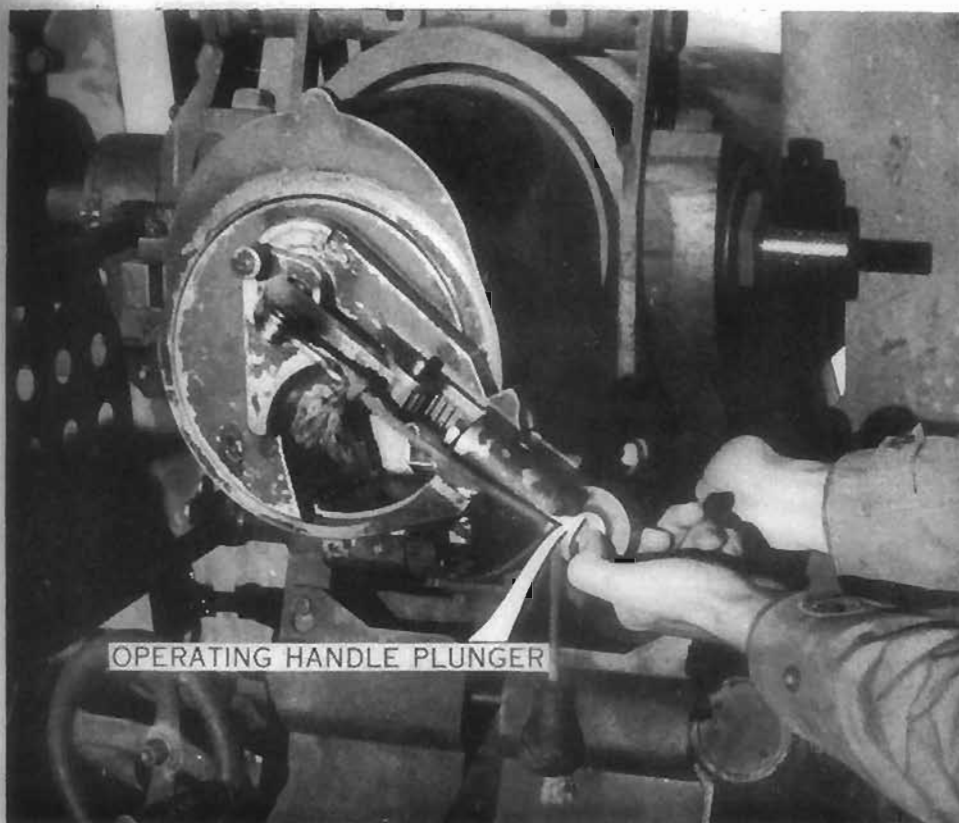

Figure 10
- E. Unlock breechblock by pushing on operating handle plunger (fig. 10).